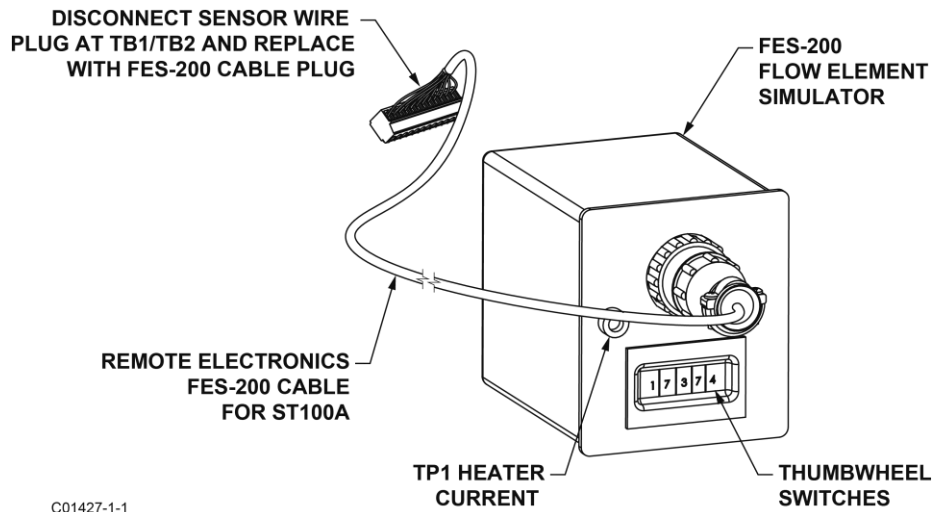
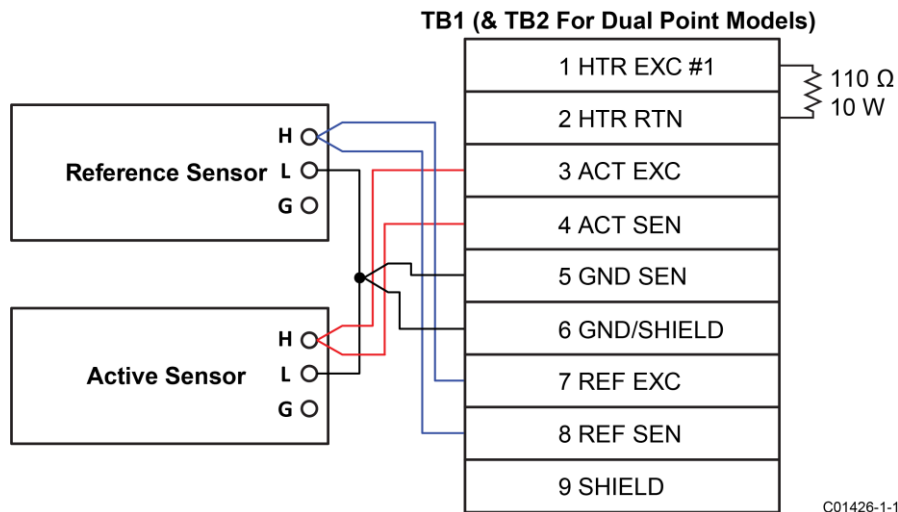

Figure 73 – Connecting FES-200 to ST100A Series Transmitter
Figure 74 – ST100A Series Decade Box Wiring
3. Disconnect a flow element sensor from the ST100A Series transmitter (TB1/TB2) and connect the FES-200 cable connector in its place. See Figure 73. Precision decade boxes can be used in place of the FES-200. See Figure 74 for decade box wiring.